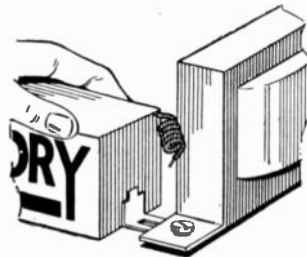

FIGURE 4
B. One end may be pushed under any screw head on the chassis without removing the screw as in Figure 4. The other end may be left loose or soldered to the chassis as in Figure 5.